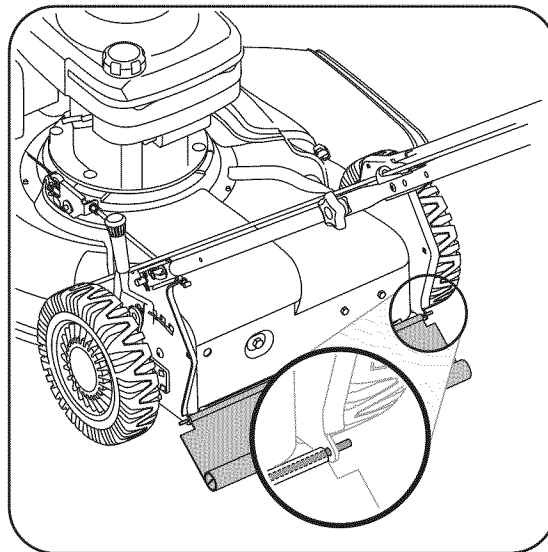

Figure 12
1. Cut off the flat end of the wire rod which secures it to the deck. See Figure 12.